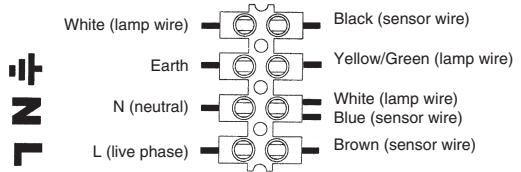

Fig. 2B
5. Remove the cover of the junction box, remove the cable gland and strain relief, feed in the power cable (3G 0.75) through the gland and rubber grommet. Connect the three wires of the cable to the terminal block (Fig. 2B).